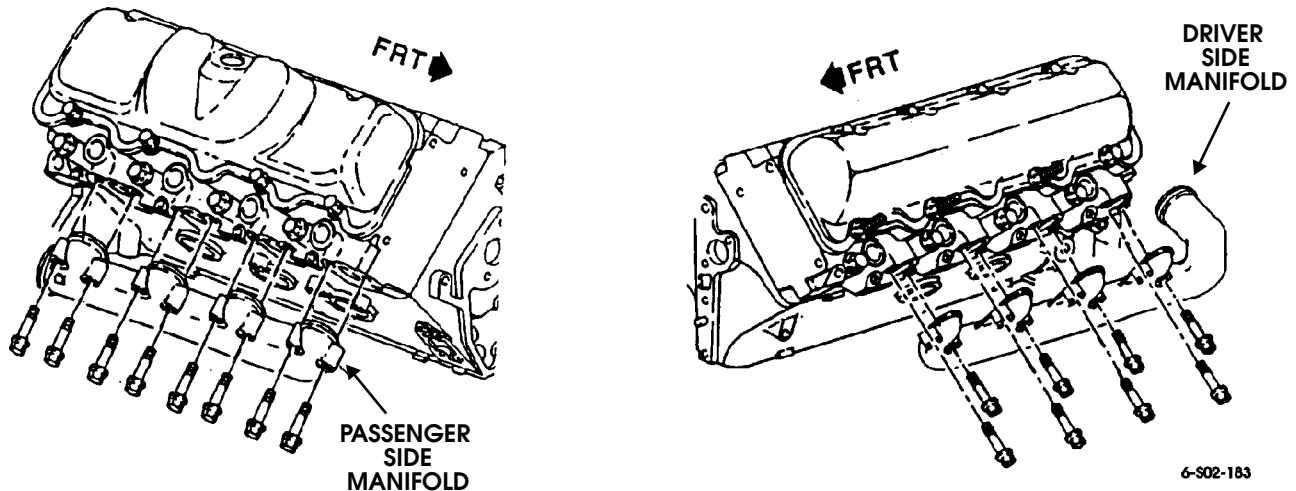

Figure 2-59: Exhaust Manifold Attachment (Turbo Diesel)
5. Remove manifold attaching bolts and remove manifold (Figure 2-59).